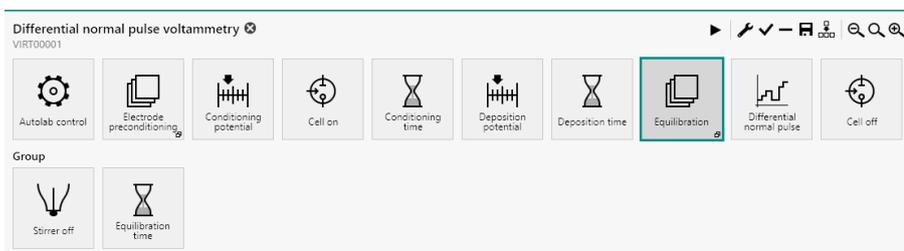

Figure 634 The Equilibration group
- **Equilibration:** this command group is used to create an equilibration step in the procedure. The commands in this group are used to switch the stirrer off and wait for the specified amount of time (see Figure 634, page 528).